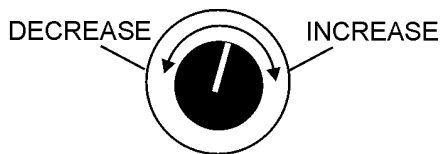

**Figure 14. UVWO Terminal Lugs 3Ø-480V Connections**
1. Connect the load wires to the UVWO terminals as shown in Figure 14.